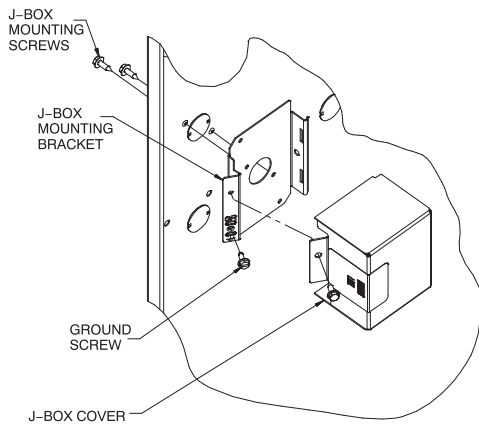

Fig. 34 – Installing J-Box (When Used)
The J-Box cover, mounting bracket and screws are shipped in the loose parts bag included with the furnace. See Fig. 34 for J-Box mounting locations.
1. Drill two (2) 1/8-in. (3 mm) pilot holes through the dimples in the furnace casing near the 7/8-in. knock-out on the side of the casing. Do not remove the knock-out in the side of the casing.
9. Connect field power and neutral leads to furnace power leads inside the external electrical box as shown in Fig. 34.
1. Install J-Box mounting bracket to inside of furnace casing. See Fig. 34.
5. Connect field ground wire and factory ground wire to green ground screw on J-Box mounting bracket as shown in Fig. 34.
7. Attach furnace J-Box cover to mounting bracket with screws supplied in loose parts bag. Do not pinch wires between cover and bracket. See Fig. 34.
4. Connect field ground wire and factory ground wire to green ground screw on J-Box mounting bracket as shown in Fig. 34.